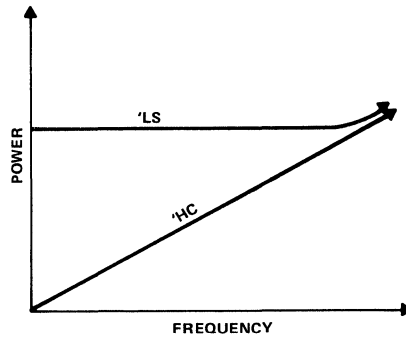
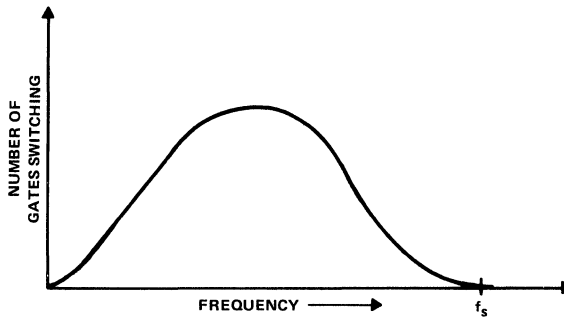
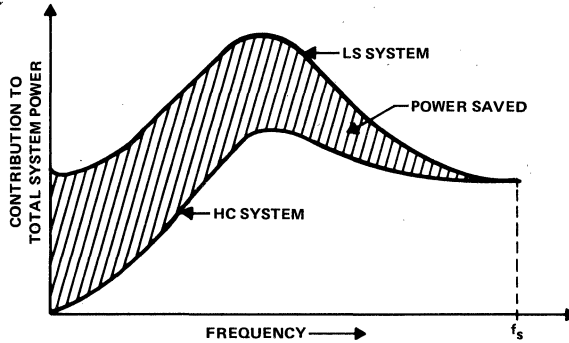

Figure 9. Power Consumed Versus Frequency for High-Speed CMOS Compared to LSTTL
Figure 10. Typical Distribution of Switching Frequencies for Gates within a System with Maximum Clock Frequency, f_s
Figure 11. Contribution to Total Power by Gates Running at Frequencies from 0 to f_s
1. The high-speed CMOS family can operate at speeds comparable to LSTTL. The high-speed CMOS family has ac parameters guaranteed at a supply voltage of 2 V, 4.5 V, and 6 V over the full operating temperature range into a 50-pF load (also, 150 pF for high-current outputs). Note that at the higher operating frequencies, the power consumption is also comparable to LSTTL (Figure 9).
2. Figure 9 also shows that the high-speed CMOS family covers a wide range of applications: low power drain for low-speed systems, and a slightly higher drain for higher speed systems.
As mentioned previously, the power consumption for an individual gate at the maximum speed is comparable to LSTTL. However in typical systems, only a fraction of the gates are switching at the clock frequency; therefore, significant power savings can be realized. On a system level where the individual gate switching frequencies are distributed between zero and the system clock frequency (Figure 10), the power saved with high-speed CMOS can be quite significant, as illustrated in Figure 11. The total system power is the area under each curve. The graph in Figure 11 is obtained by multiplying the individual gate characteristics (Figure 9) by the frequency distribution in Figure 10.
- High-speed CMOS is ideal for battery-operated systems, or systems requiring battery back-up, because there is virtually no static power dissipation (Figure 9).